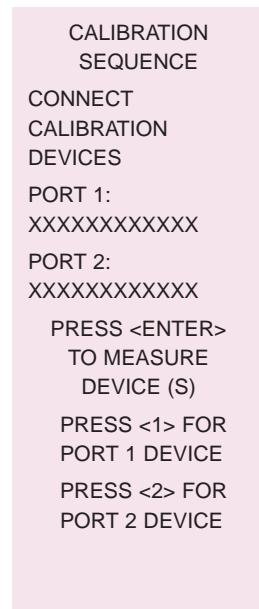

Figure 13
- **Step 14:** Select **START CAL** to begin the calibration standard measurement sequence. Proceed with the calibration, connecting the appropriate standards as prompted by the 360B menus. The 360B will measure Port 1 and Port 2 standards simultaneously if **ENTER** is pressed, or one at a time if **1** (Port 1) or **2** (Port 2) numeric keys are pressed (Figure 13).